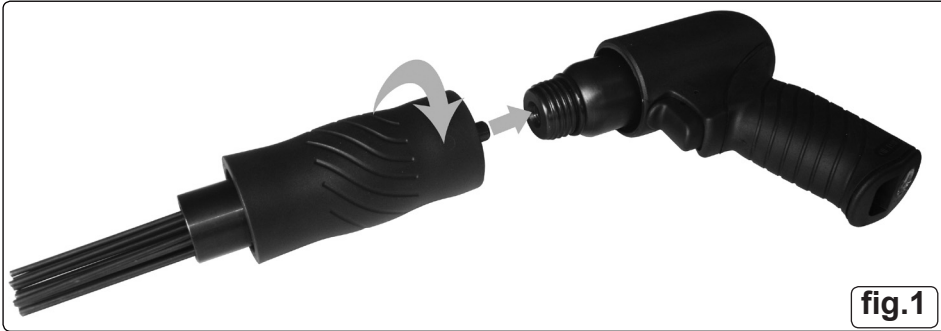

fig.1
3.1.1. Screw the scaling head fully onto the body as indicated above in fig.1.